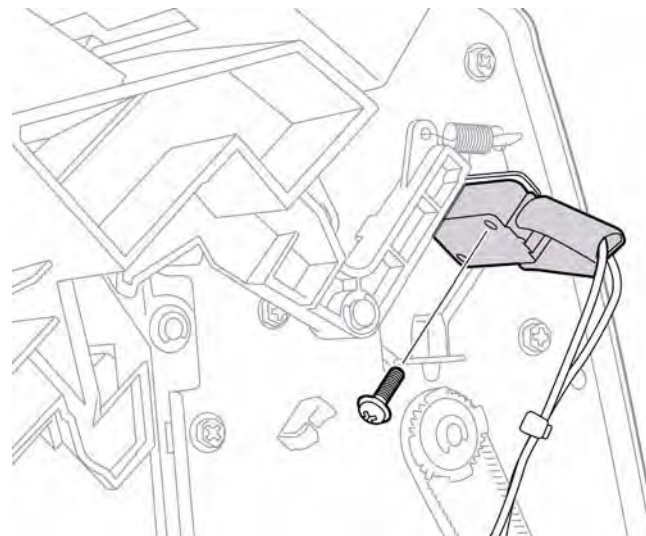

Figure 1 Remove the Staple Interlock Switch
3. Remove 1 screw that secures the switch to the Finisher, Figure 1.